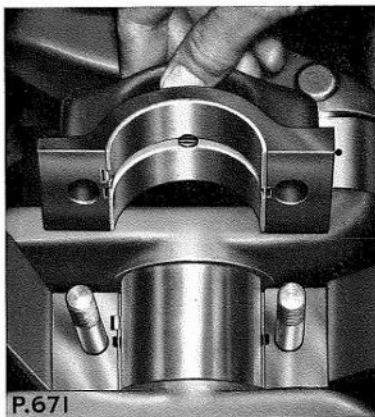

Fig. B.46. Crankshaft main bearings, showing the position of the bearing locating lips and the mating housing recesses
- Withdraw the lower bearing half from the cap and using a suitable metal drift push out the upper bearing half, whilst rotating the crankshaft in the same direction as that traversed by the drift, noting that the metal drift must be applied to the side opposite the locating lip (see Fig. B.46). If the original bearings are to be refitted, identify each bearing half to its respective position.